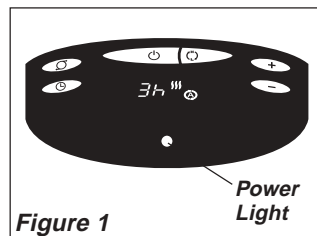

Figure 1
4. When the Heater is initially plugged in, there will be a "beep" and the **Power Light** will come on indicating that there is power to the unit. The **Power Light** will remain lit until the Heater is unplugged from the electrical outlet. (Figure 1)